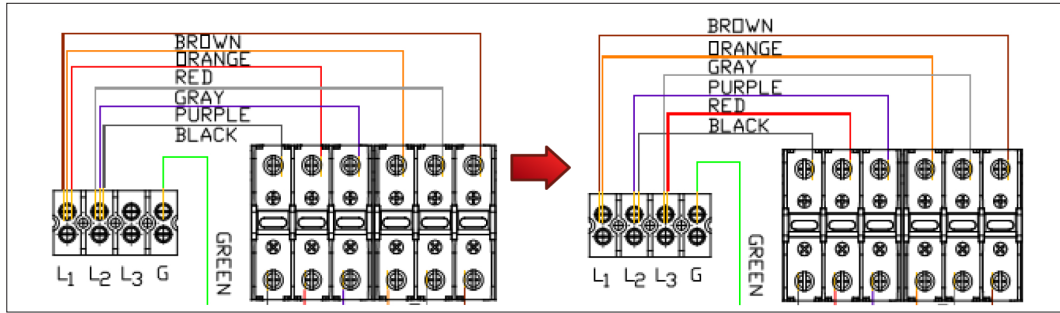

Figure 4 - Converting from Single to 3 Phase Operation
1. Remove the red and grey wires from terminals L1 and L2 respectively. See Figure 4.